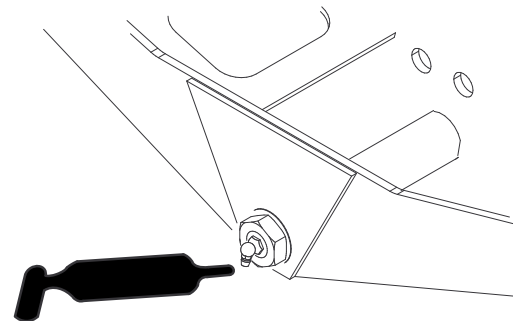

Figure 70
- Axle-steering pivot (1) (Figure 70)